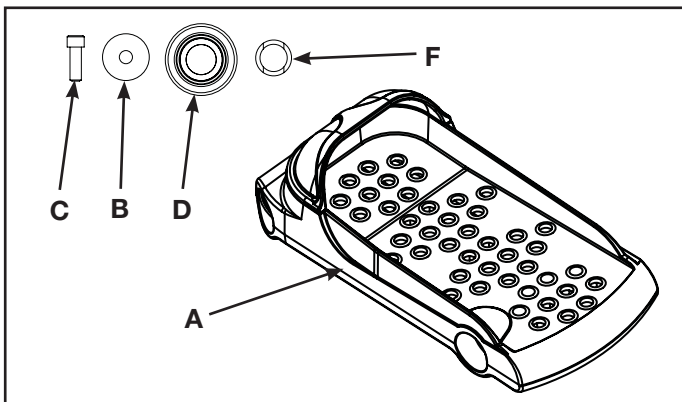

Figure 1 (right foot assembly)
2. Verify you received the following (see Figure 1):
- A. Right foot plate assembly (1), 610AK002 (this kit)
- B. Flat washer (4), HS307602
- C. SHCS .250-20 x .75 (2), HX622815
- D. Spacer (2), PL-17279
- F. Wave washer (2), HS427100